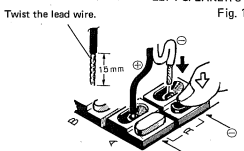

Fig. 2
1. Strip approximately 15mm of insulation from the end of each speaker lead (Fig. 2).
3. As shown in Fig. 2, while pushing down the button with a finger, insert wire end in the connector.